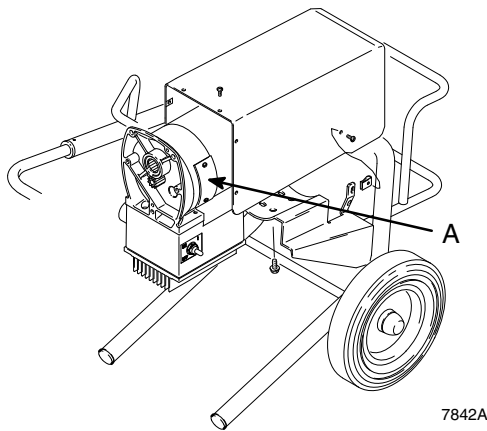

Fig. 14
2. Remove both inspection covers (A) and their gaskets. See Fig.14.